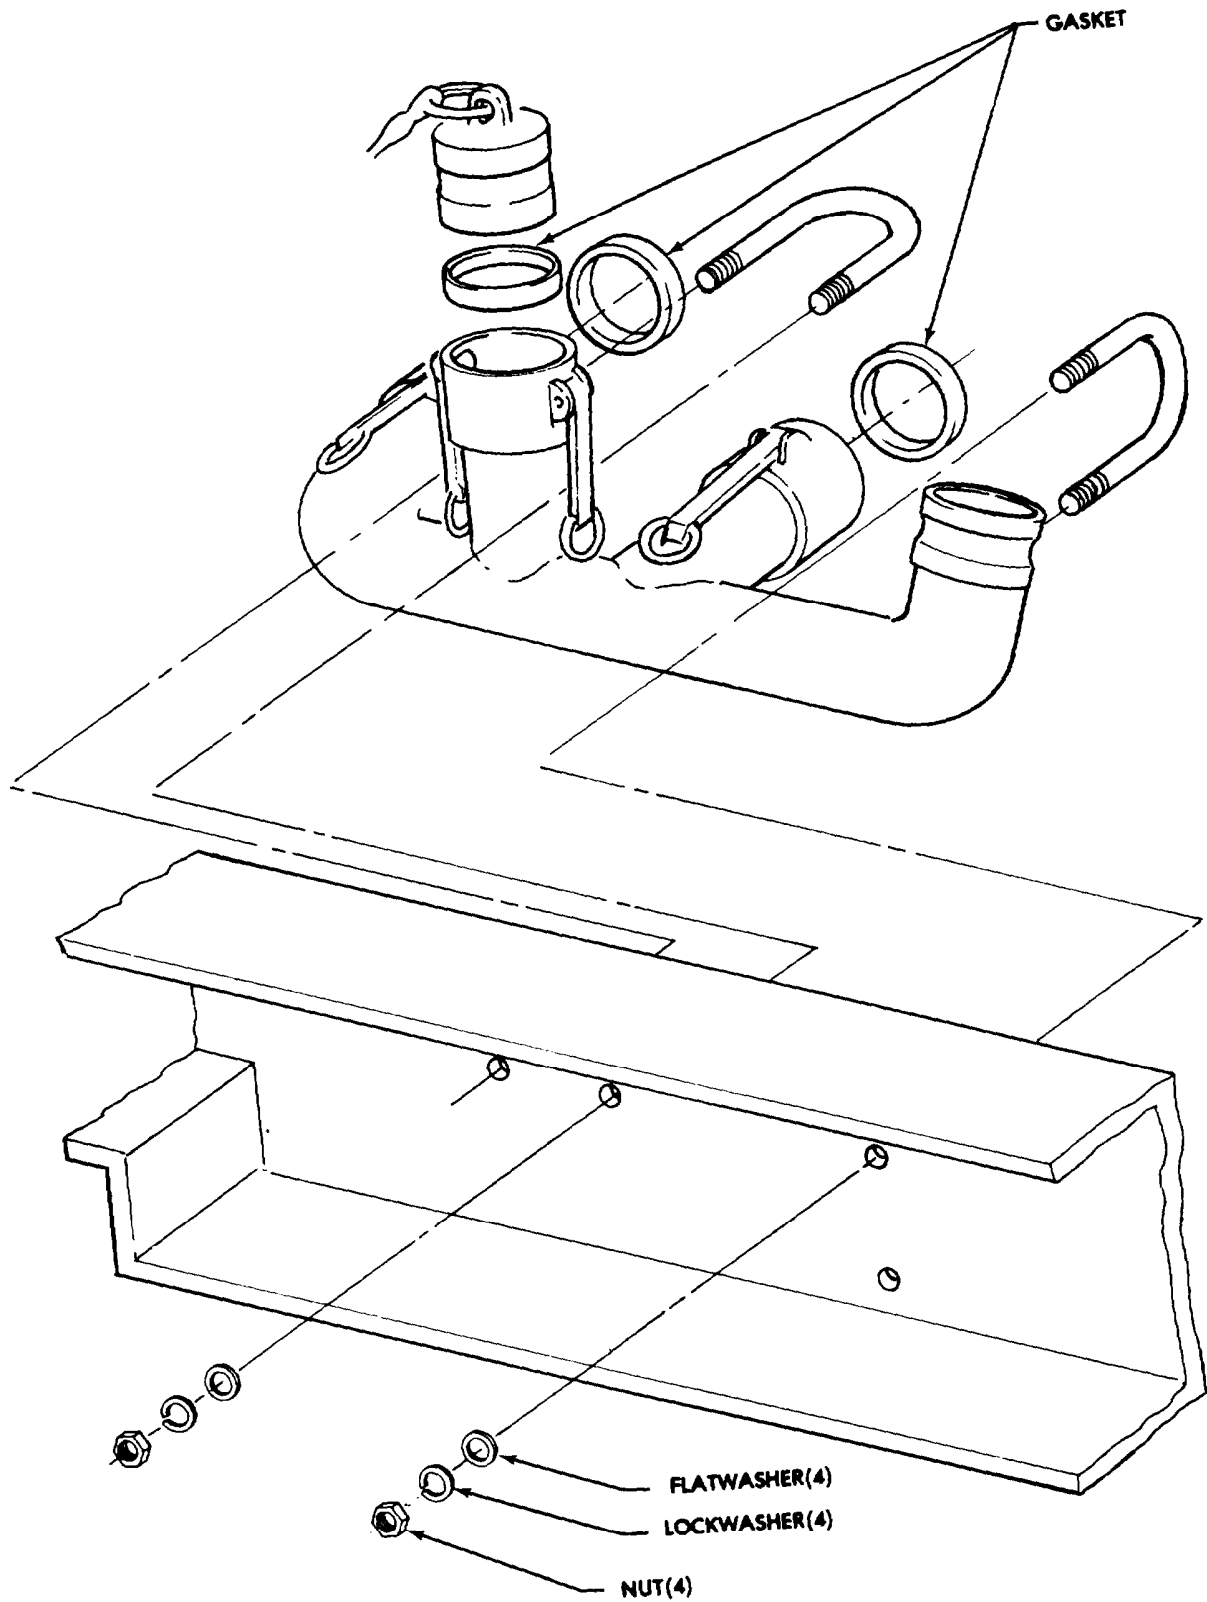

Figure 4-11. Manifold, Removal and Installation.
- (1) Close tank dispensing valves.
- (2) Remove four nuts, flat washers, and lockwashers (figure 4-11).
- (3) Remove two U-bolts which hold the manifold to the frame.
- (4) Remove the gaskets from the three female couplings.
- (1) Install gaskets in three female couplings (figure 4-11).
- (2) Attach manifold to frame with U-bolts, lockwashers, flat washers, and nuts.